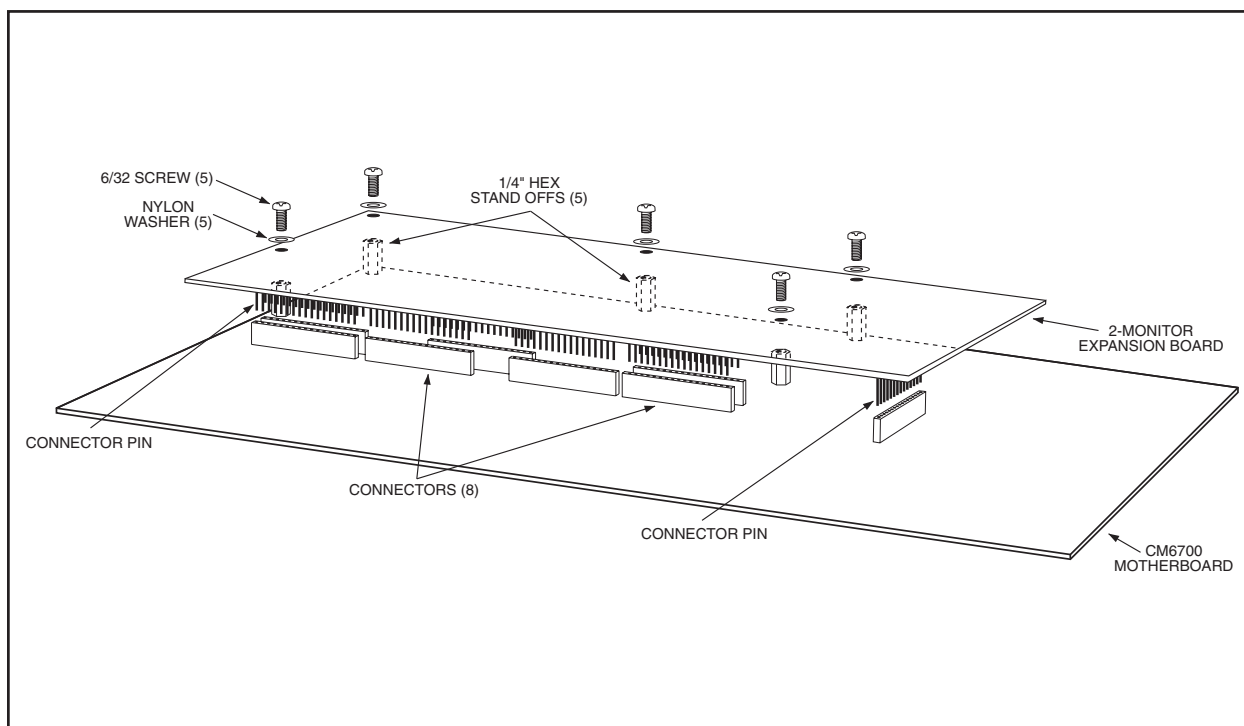

Figure 1. Exploded Assembly Diagram
3. Remove and replace the five (5) motherboard mounting bolts with the five (5) 1/4-inch hex standoffs (supplied), and tighten. See Figure 1.
4. Determine the correct orientation of the expansion card to the motherboard. The connector pins on the expansion card correspond to the 8 connectors shown in Figure 1.
- b. Align the two (2) connector pins indicated in Figure 1 with their corresponding connector openings.